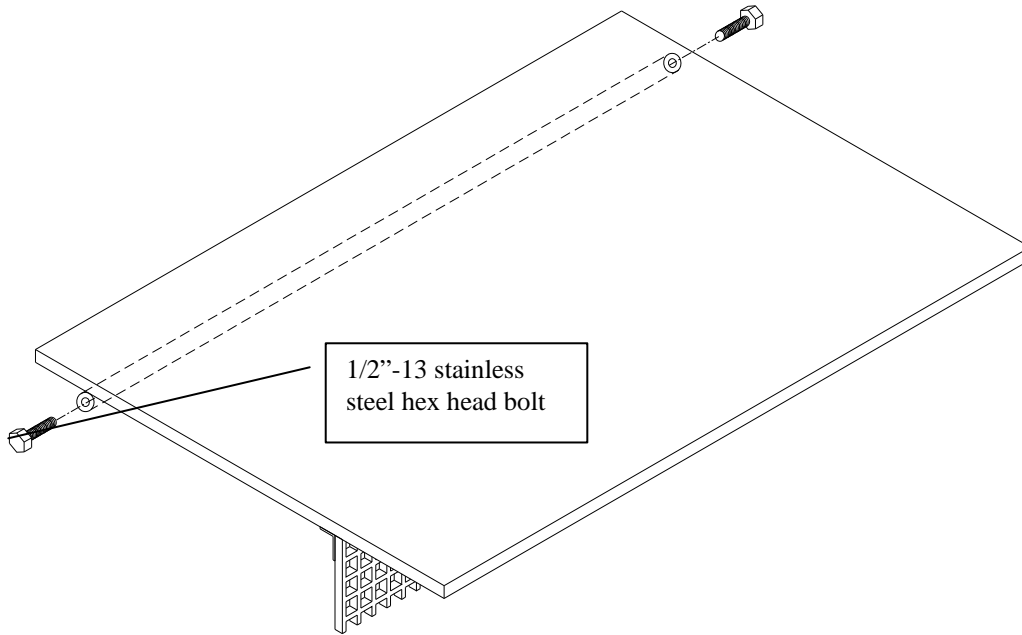

Figure 6.
7. Insert two 1/2"-13 x 1-1/2" bolts supplied into the threaded plugs as shown in Figure 6.